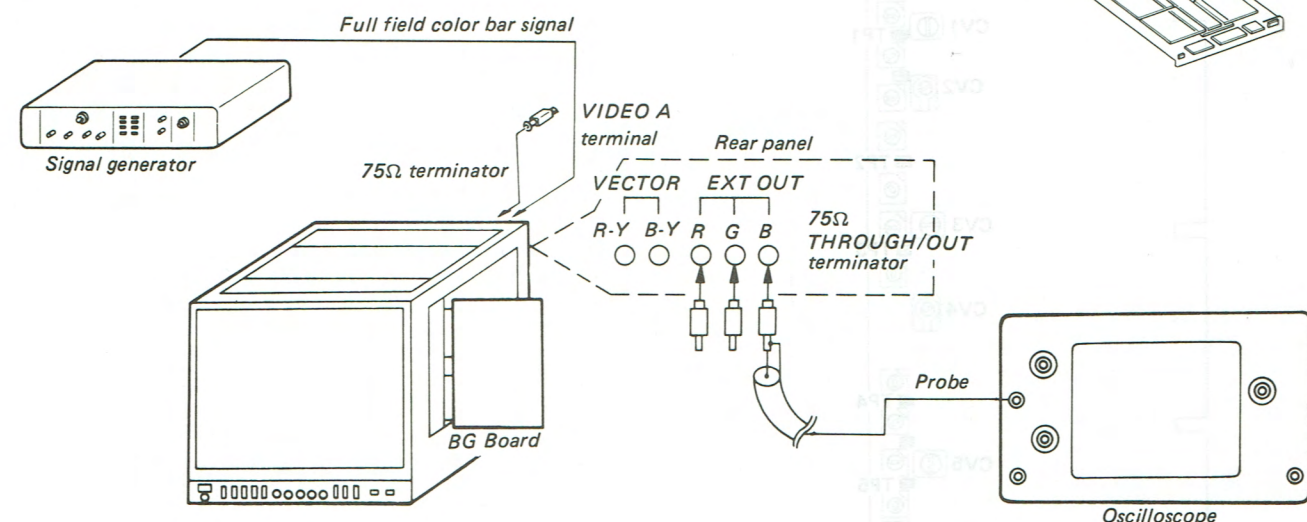

Fig. 34-1.
1. Connect as shown in Fig. 34-1.
2. Confirm that the input signals of Fig. 34-1 are FULL FIELD, 75% AMPL, and WHITE REF 75 IRE.